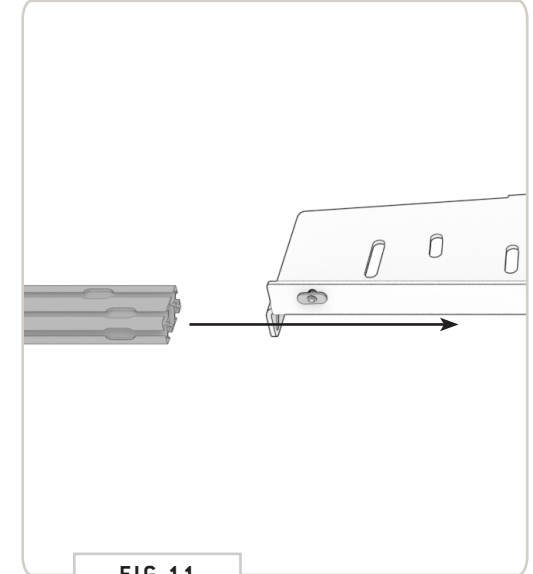

FIG 11
**4.2 Crossbar Install:** Now, slide the Crossbar onto the Crossbar Fairing Bracket. You'll have to straighten each T-Nut as you go to get it to feed into the crossbar correctly (FIG 11 + 12).